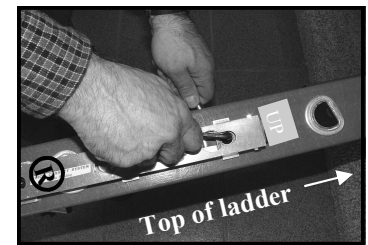

Figure 12
6.) **Complete Mounting on Ladder Rail** by sliding 3 mounting bolts, with all necessary spacer plates and / or thin washers, through the pre-drilled holes. **VERY IMPORTANT** - Install Base Units with “L” unit on **left** side of ladder and “R” unit on **right** side. Be sure base Unit is installed with red “UP” sticker on top. (Figure 1, 3, 10 & 12) Slide large fender washers over bolt ends and tighten the self locking nuts over them with a snug fit. Recommended torque is 9 foot pounds. Use 5mm” hex key (included) to hold bolt head in position while tightening nut with 1/2” wrench or socket. (See Figure 12) See [Video www.levelok.com](http://www.levelok.com)